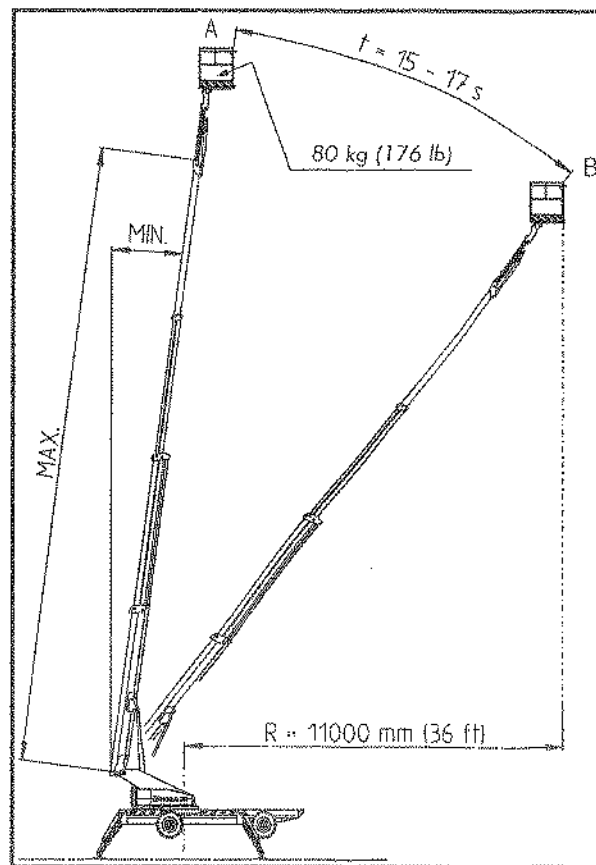

Figure 16-2
4. Drive the booms fully up from the platform, extend the booms fully with the telescope and straighten the jib boom fully (figure 16-2). Weight of operator 80 - 90 kg, platform otherwise empty.
7. Pull the lowering lever of the boom to extreme position. Start a stopwatch when the platform starts to move. Keep the lever in the extreme position until the load control stops the movement. Stop the watch when the movement stops (figure 16-2).
2. Drive the booms fully up from the platform, extend the booms fully with the telescope and straighten the jib boom fully (figure 16-2). Weight of operator 80 - 90 kg, platform otherwise empty.